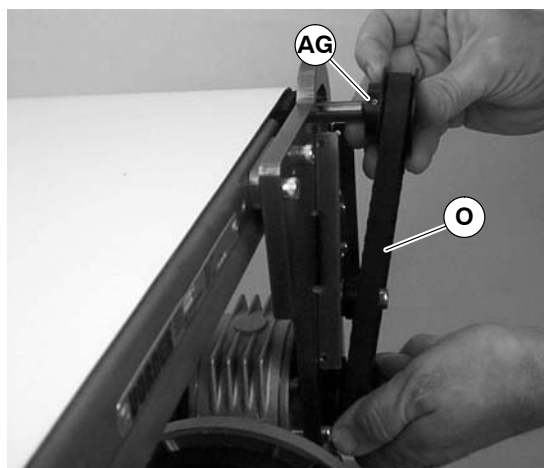

Figure 22
3. Remove timing belt (O of Figure 22).
**NOTE:** If timing belt does not slide over pulley flange, loosen driven pulley set screws (AG of Figure 22) and remove pulley with belt (O). For re-installation, see steps 11 and NO TAG on page 10.